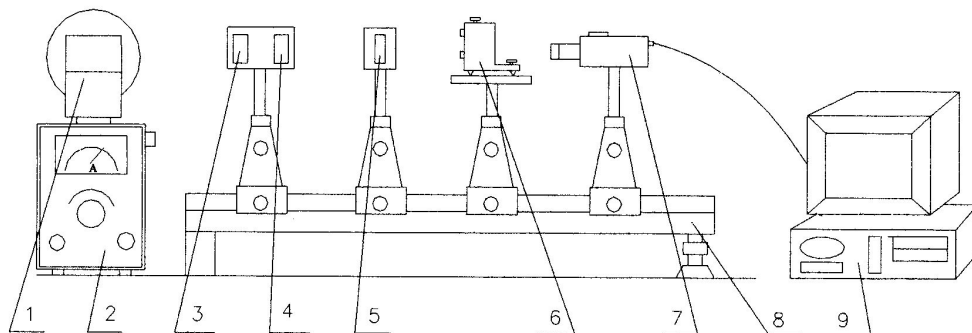

Fig.4.
Spectral line emitted from a mercury source splits in the magnetic field produced by an electromagnet. A lens is used to form the light from the source into a parallel beam. Some or all of the lines will pass through the polarizer for observation. An interference filter is used to select the components of the spectral line with a wavelength of 546.1nm. For the measurement of very small difference in wavelengths a multiple-beam interferometer - Fabry-Perot etalon - is needed. The ring pattern produced by the Fabry-Perot is recorded with a CCD camera and fed to a computer. The result can be analyzed with a special -purpose program. See Fig.4.
1. Set up the device on a table as shown in Fig.4.